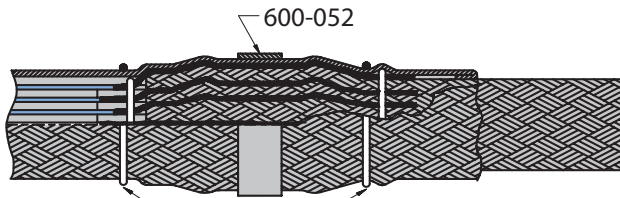

Figure 2 Lacing String or High Temperature Ty-Strap
7. Bring the shield sock from backshell and completely cover the pigtails and support ring. Trim and fold the braid as shown in Figure 2. Lace tie the shield adjacent to support ring ends.
8. Install a Glenair Band-Master ATS® band between the lace ties onto the center of the support ring as shown in Figure 2. 600 Series Band-Master ATS® hand banding tool or pneumatic banding tool is used for this process.